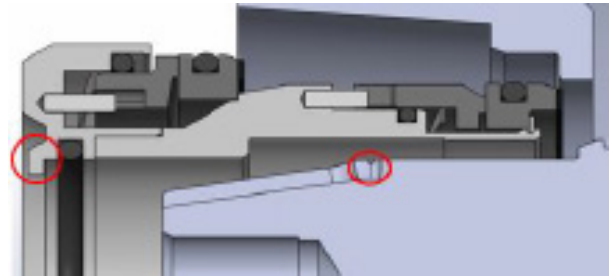

Figure 1. Sleeve And Shaft Slots
1. Align the pin in the sleeve with the slot on the shaft (Figure 1). Prior to installing the seal, ensure the shaft slot is free of burrs and sharp edges that could damage the seal.